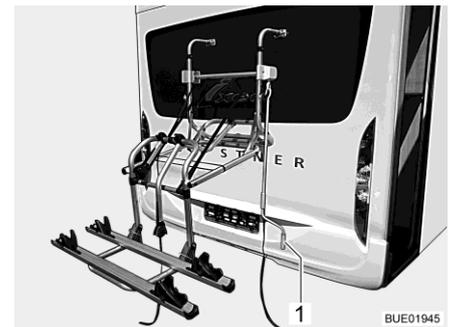

Fig. 2 Bike rack, lowered
- Attach the hand crank (Fig. 2,1) to the bike rack and lower the bike rack to gripping height.